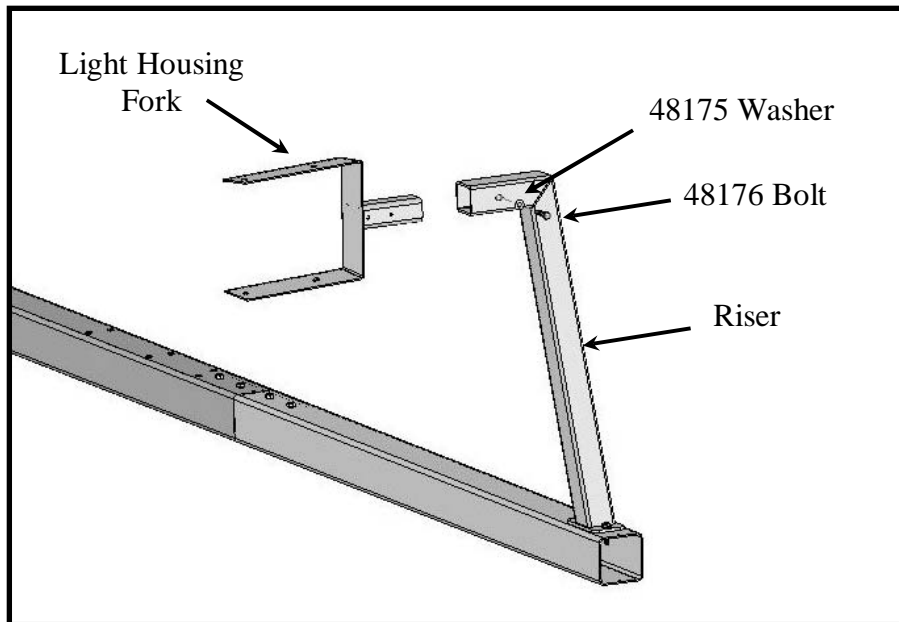

Figure 43 – Attach Fork to Riser
- f) Insert fork into the riser making sure that it will slope “upward” when the pole is standing. Fasten the fork in place with the 48175 washer and 48176 bolt. *See Figure 43.*